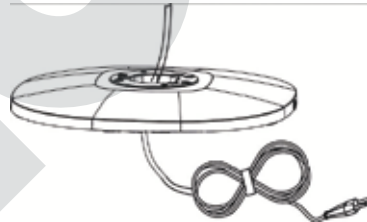

Fig. 2
5. First, join the two parts of the base stand together, until the lock in place (see Fig. 2) In this process, note that the power cord must be routed through the opening in the middle of both parts!